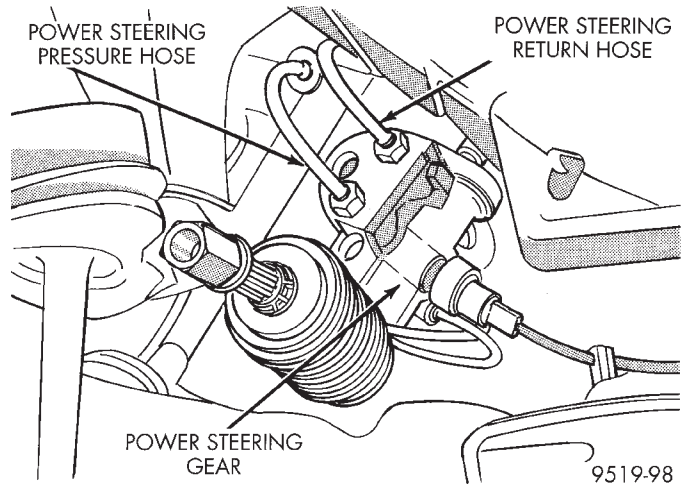

Fig. 49 Power Steering Hose Connections At Steering Gear
(11) Remove the power steering fluid return hose (Fig. 49) from the power steering gear.